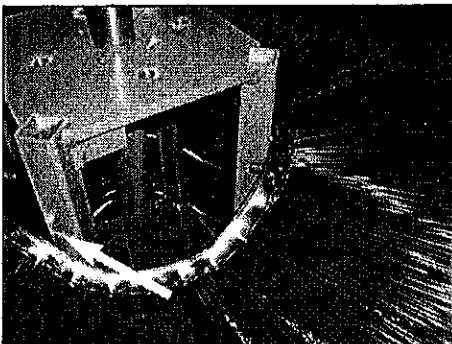

Figure 35
9. Install a second section with drive pins rotated 180° from those on the first section (Figure 35).